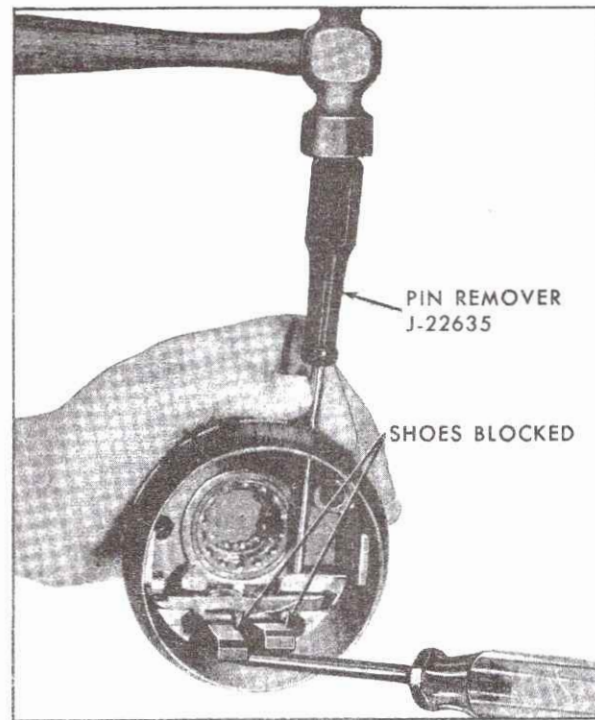

Fig. 9-53 Removing Release Mechanism
34. Wedge shoes inward with a block between the top of the shoes and the bearing housing and, using Pin Remover, J-22635, through slot in opposite side of housing, with flat on tool over shoulder next to pin drive release lever pin out of bearing housing, Fig. 9-53. Remove Pin Remover, J-22635, and remove release lever and spring.